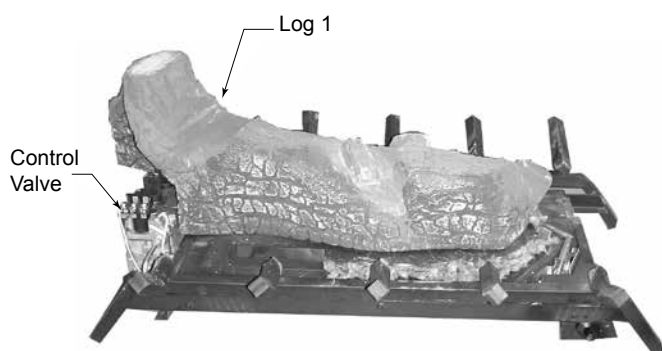

Figure 5.1 - Place Log #1
1. Place log #1 on burner by aligning two (2) holes on bottom of log with two (2) pins on burner. The tallest part of the log is on the valve side of burner. Gently push log down until it comes in contact with burner surface. *Figure 5.1*